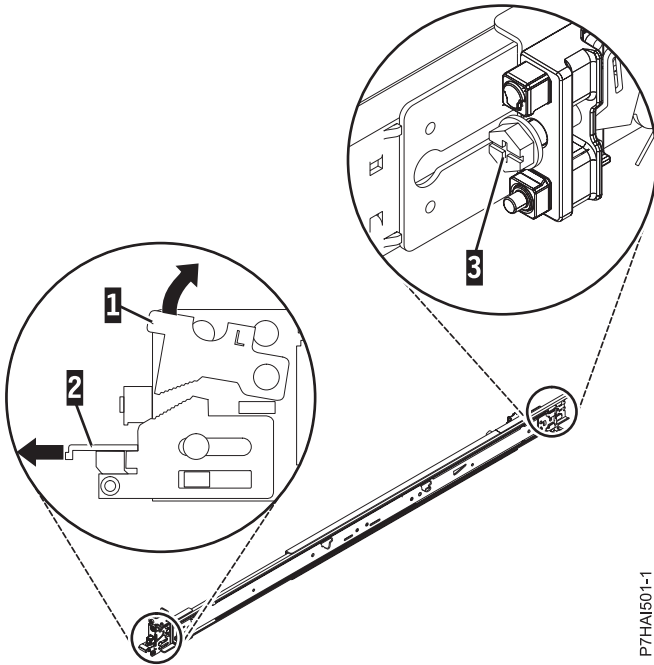

Figure 3. Opening the front latch and removing the rear screw
2. Push up on the front locking tab (1), and pull out the front latch (2) at the front of the rail. Then remove the screw from the rear of the rail (3), as shown in Figure 3 on page 6.